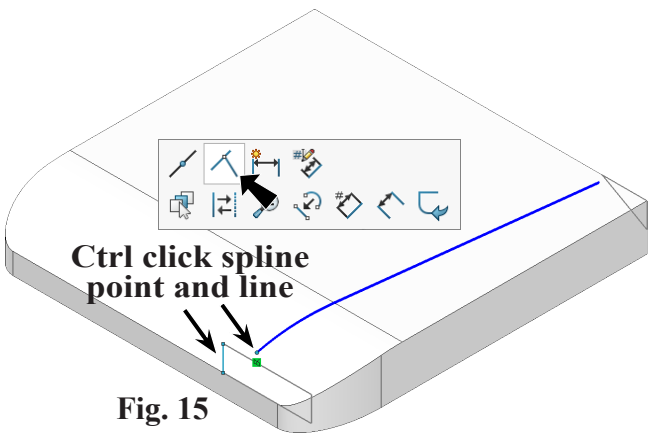

Fig. 15
Step 5. **Ctrl click Spline Point 1 and line in Sketch2** to select both, **Fig. 15**. Release Ctrl key and click **Make Coincident**  on the Context toolbar.